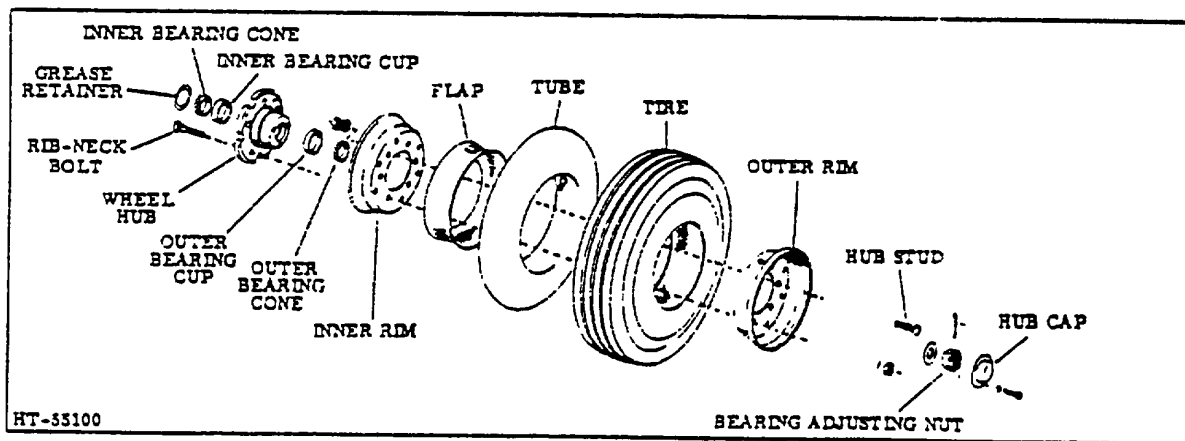

Figure 8. Steer Wheel Assembly (Pneumatic Tire Type)
2. Remove the nuts and lockwashers attaching the rims to the bolts on the wheel hub. (See Fig 8/11)